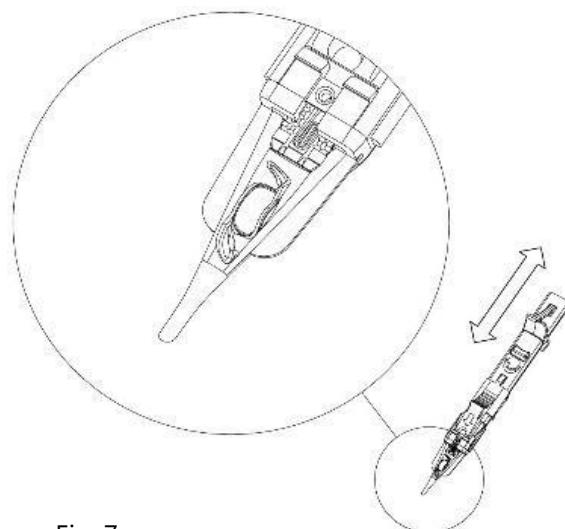

Fig. 7
- Once the IOL reaches the "cartridge wings" as shown in Fig. 7, stop pushing and pull the plunger back to the end. Push the plunger again to remove any air from the nozzle. Enter the eye and then continue pushing slowly. If you experience too much resistance at any phase of the injection, or you can see a part of the haptic trapped between the red soft tip and the cartridge wall, pull the plunger back a few millimeters and then push it again.